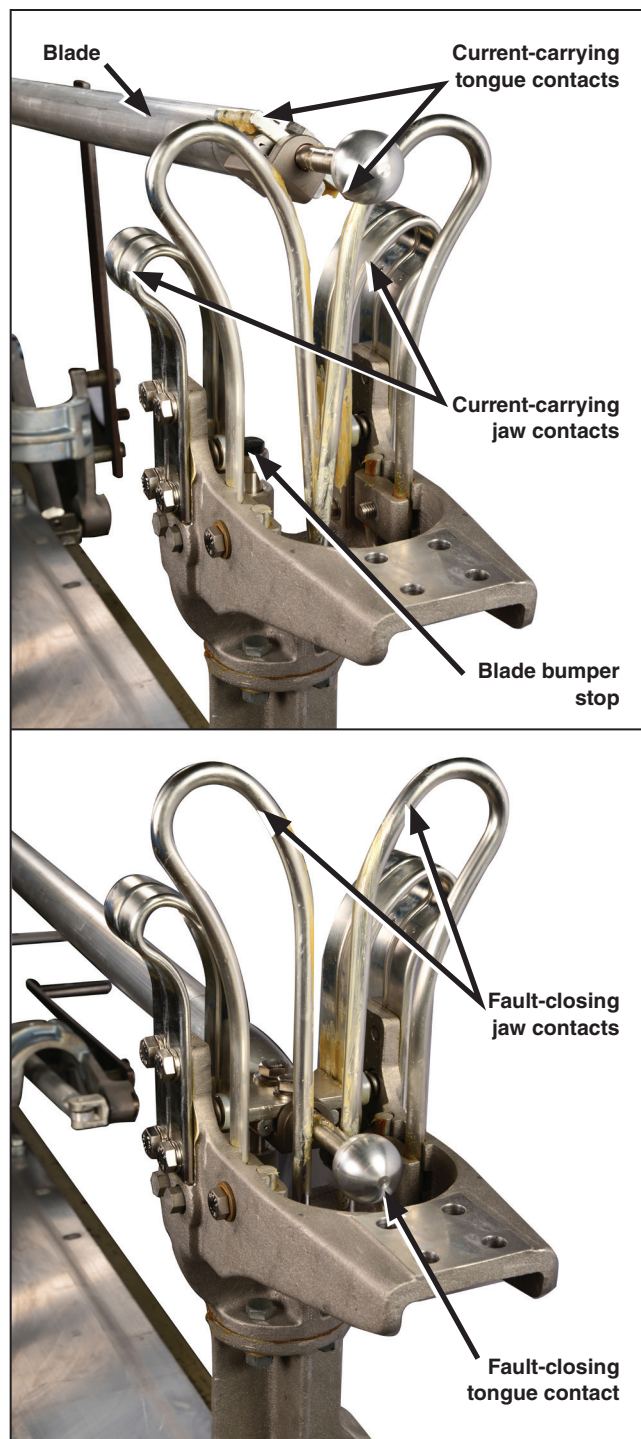

Figure 9. Check penetration of the blade as it lowers into the jaw contact during closing.
- (b) The silver-surfaced area of the current-carrying tongue contacts should center laterally with the silver-surfaced current-carrying jaw contacts, and the blade should rotate with slight pressure against the blade bumper stop and come to rest either on the stop or slightly above it. See Figure 9.